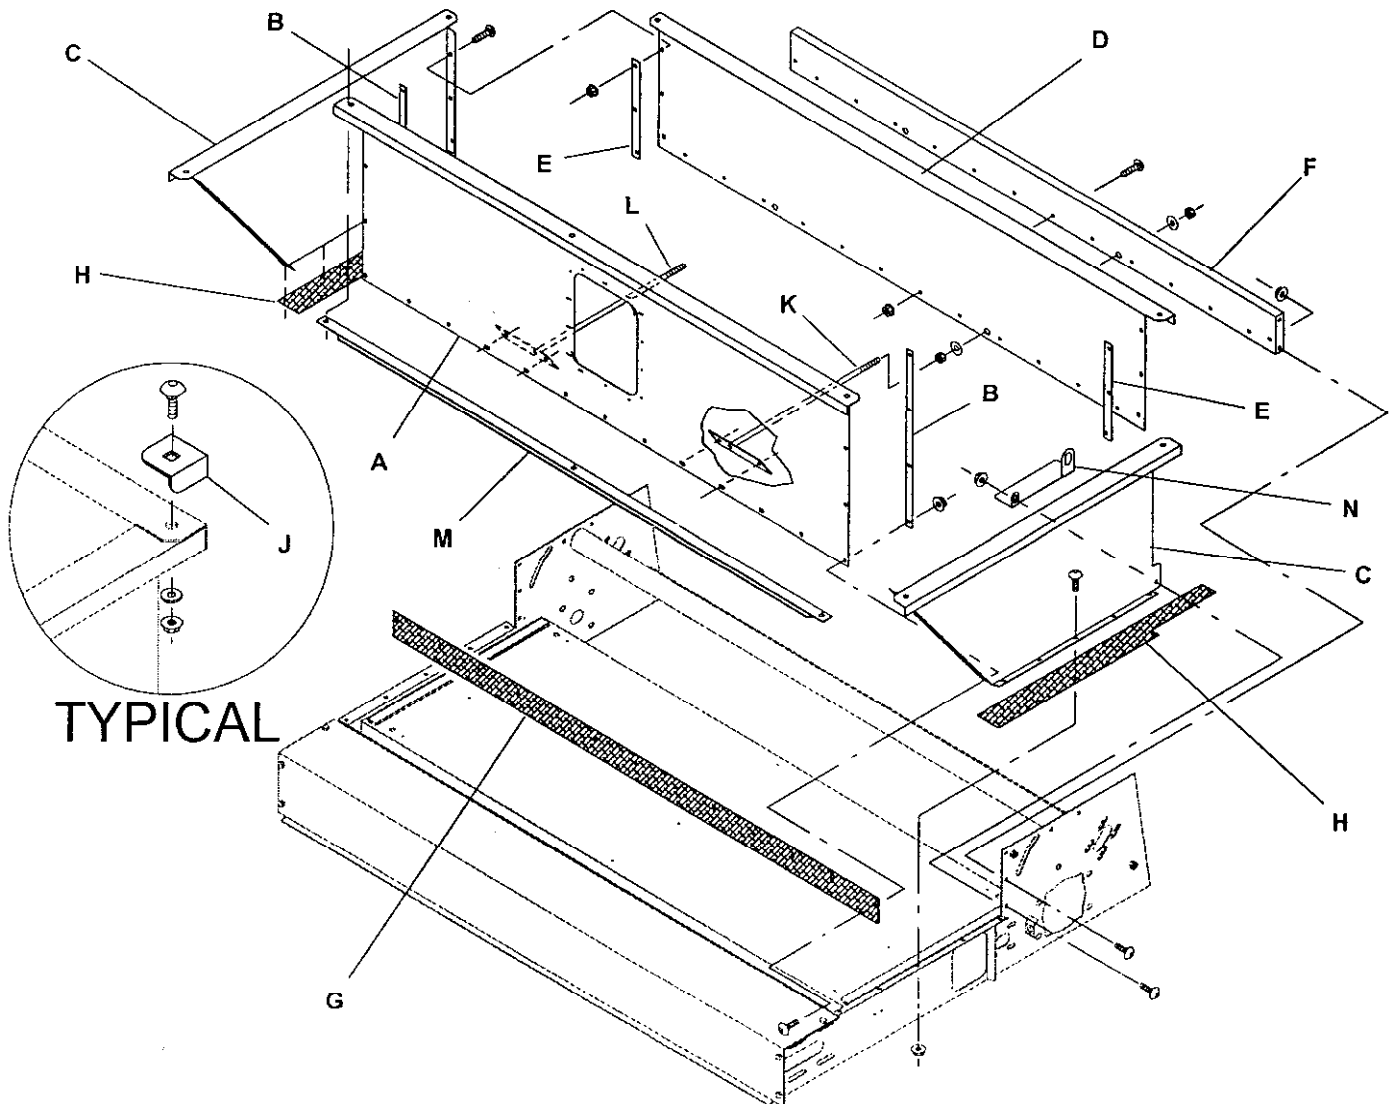
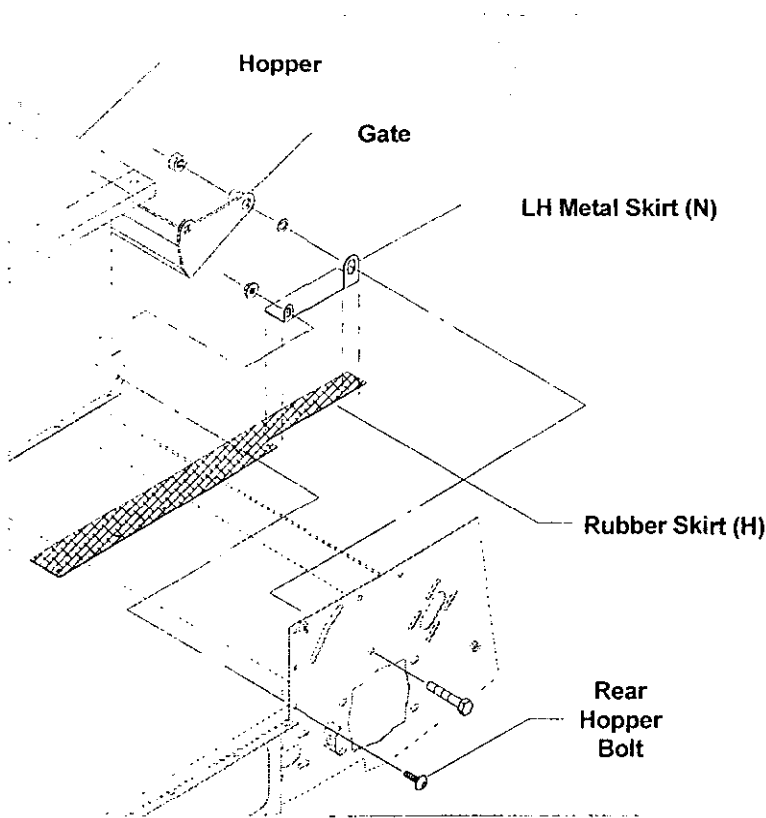

Figure 2
Figure 3
ASSEMBLE HOPPER (Fig. 2 & 3)
2. Attach the Hopper Brace (F) to Base Frame using (4) 1/4" x 5/8" carriage bolts and whiz nuts.
3. Attach the rear (D) to the Hopper Brace using 1/4" x 5/8" carriage bolts and whiz nuts. Assemble the sides (C), side Rubber Skirts (H) and Hopper Corner Strips (E) to the Rear (D). Do not secure hardware.
4. Attach both L.H. and R.H. Support Rods (K & L) through the hopper as shown in Fig. 2.
5. Attach the Front Rubber Skirt (G) to the Front (A) with Hopper Strips (B) to the sides and bottom of topdresser using 1/4" x 5/8" carriage bolts and whiz nuts. Secure hardware.
NOTE: Only the LH metal skirt is shown in Fig. 2 and Fig. 3.
7. Attach the Hopper Brace (M) under the front channel of the Hopper Front as shown in Fig. 2. Secure center holes with 1/4" x 5/8" carriage bolts.
8. Attach (4) Corner Brackets (J) to the corners of the hopper including the front Hopper Brace .